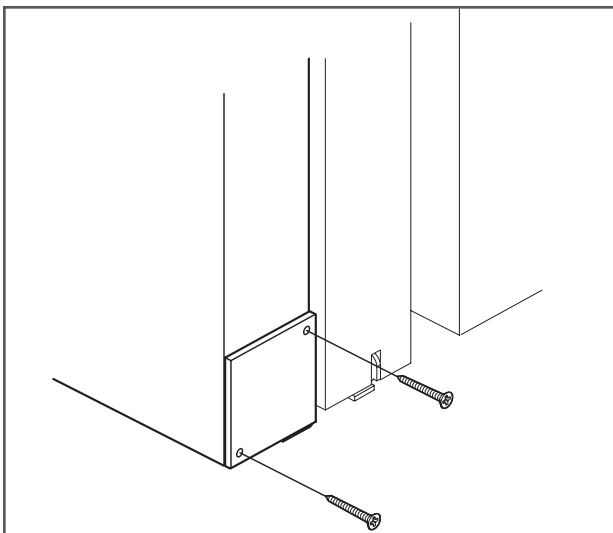

Figure 16
27. Install plate with two flat head Phillips screws (provided) and a drill with a Phillips bit (Figure 16).